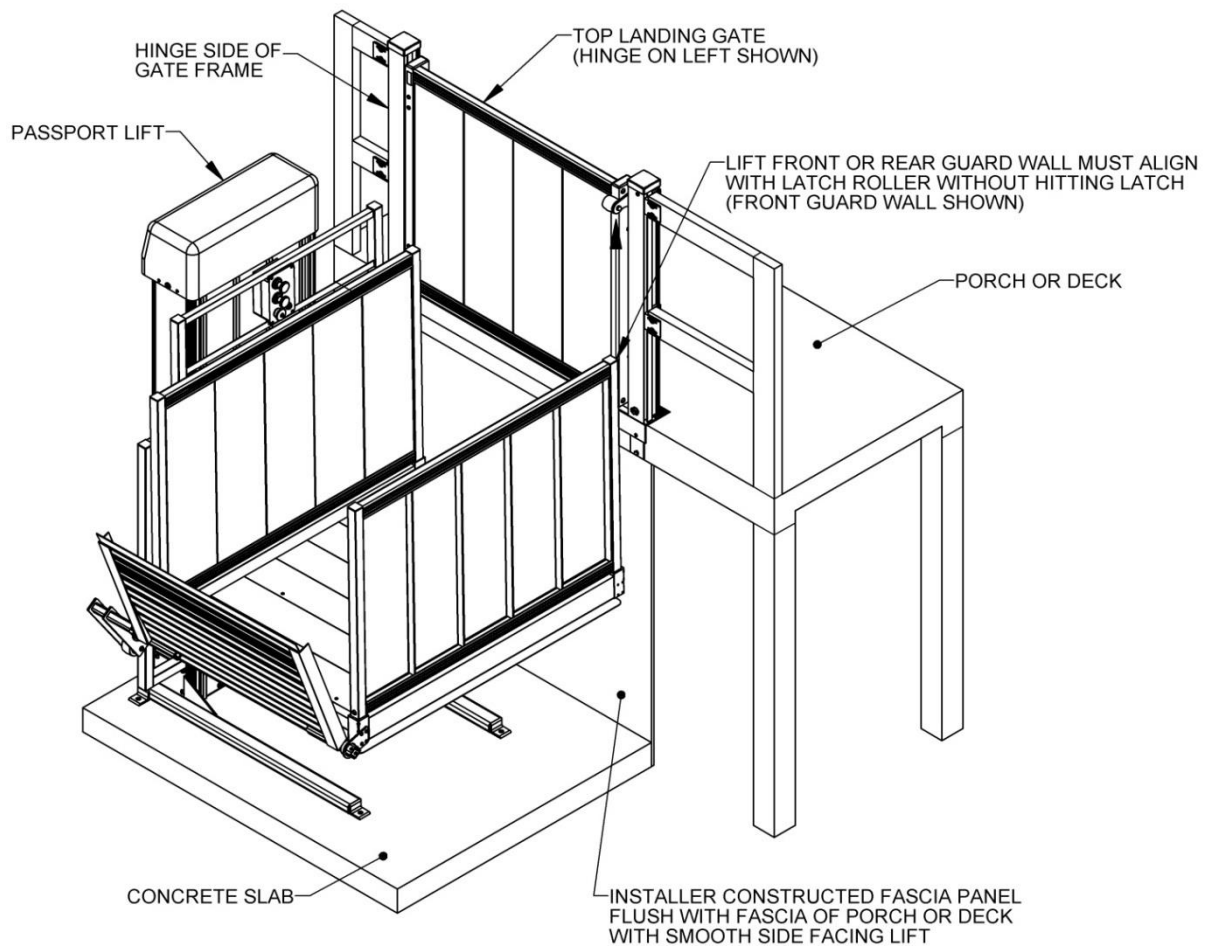

FIG. 6.1A
4. Install the VPL as described elsewhere in the manual. The side of the VPL platform adjacent to the fascia must be between 3/8" and 3/4" of the porch or deck and the front or rear guard wall of the straight platform or the side guard wall of the 90° Turn Platform must align with the latch roller on the Top Landing Gate depending on which way the Top Landing Gate opens (FIG. 6.1A, 6.1B & 6.2).